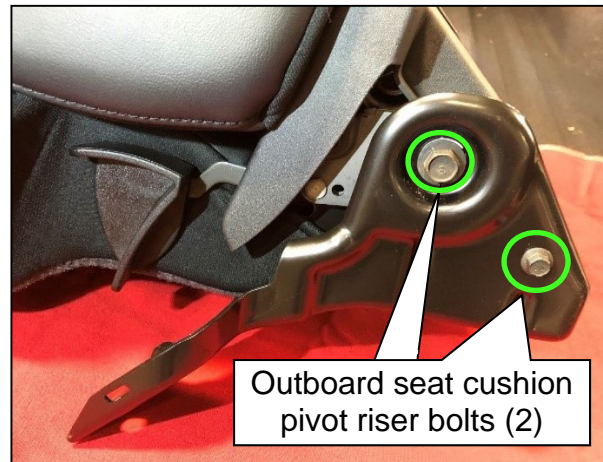

Figure 3
4. Remove the two (2) outboard seat cushion pivot riser bolts, and then remove the outboard seat cushion pivot riser (Figure 3).